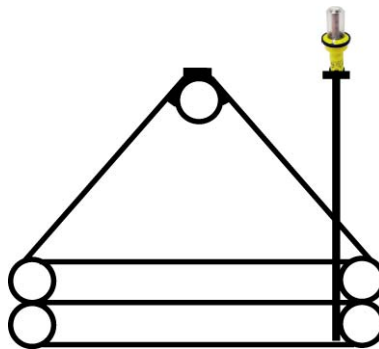

Figure 27 - Installation on top a pole
- or on a fiberglass telescopic pole (See Figure 27 - Installation on top a pole):